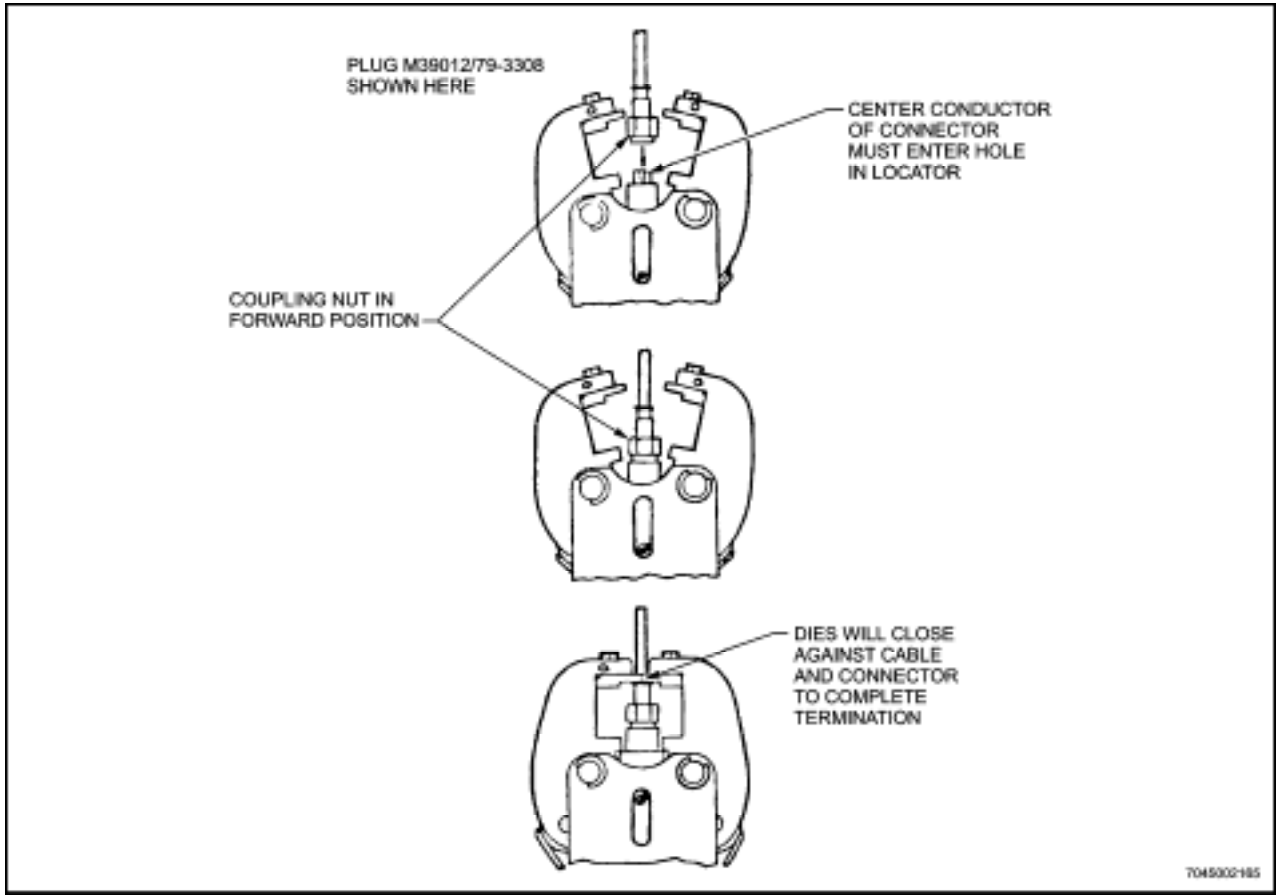
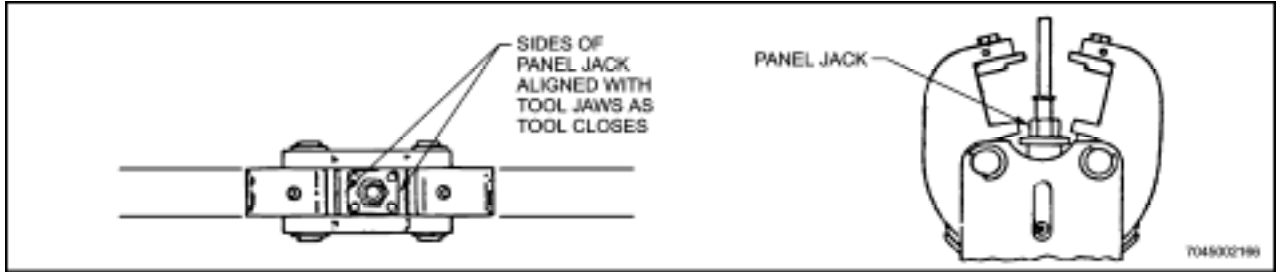

Figure 12-59 Plug Termination
Figure 12-60 Jack Termination
46. Refer to Figure 12-59 (plug termination) or Figure 12-60 (jack termination), then proceed as follows:
- e. When terminating PANEL JACK to cable, align sides of panel jack with tool jaws as shown in Figure 12-60.